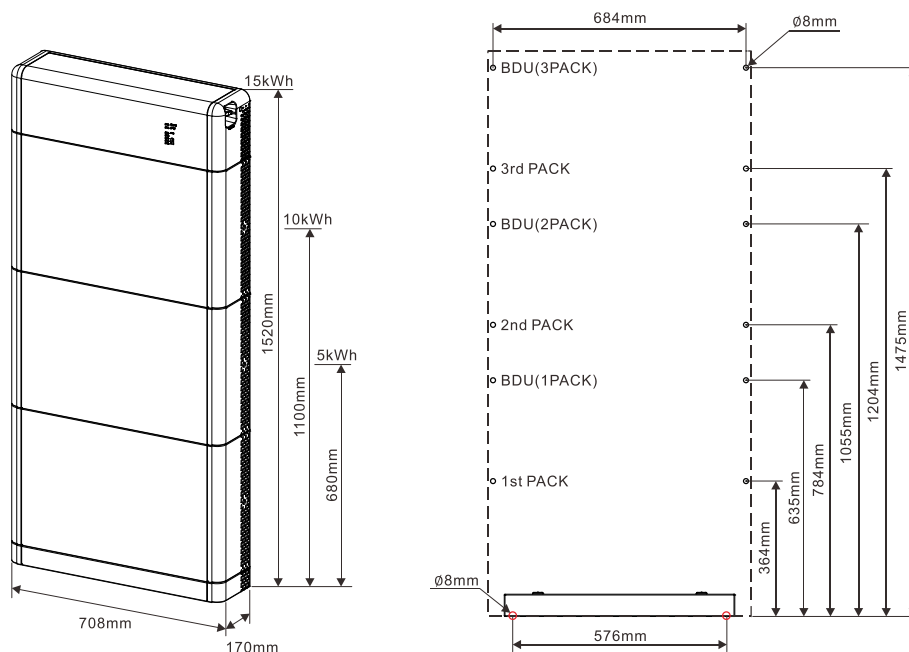

Figure 10 – System installation dimensions diagram
- 3) Mark the holes for fixing the battery module and BDU with a marker according to the dimensions shown in Figure 10